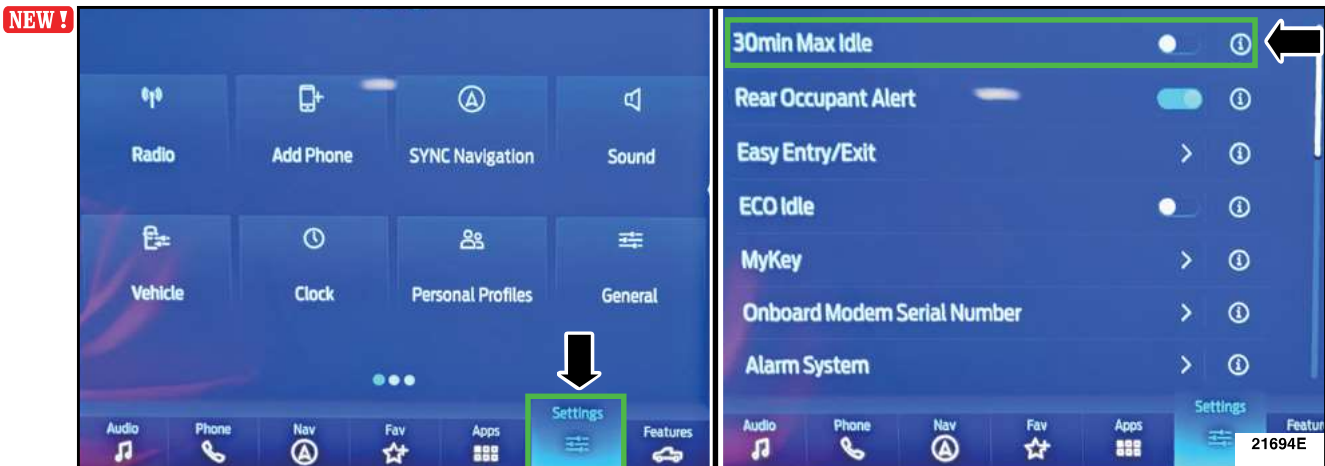

FIGURE 1
- For F-150 vehicles, from the center display screen press the vehicle Settings button and turn **OFF** the **30 min Max Idle** setting. See Figure 1.